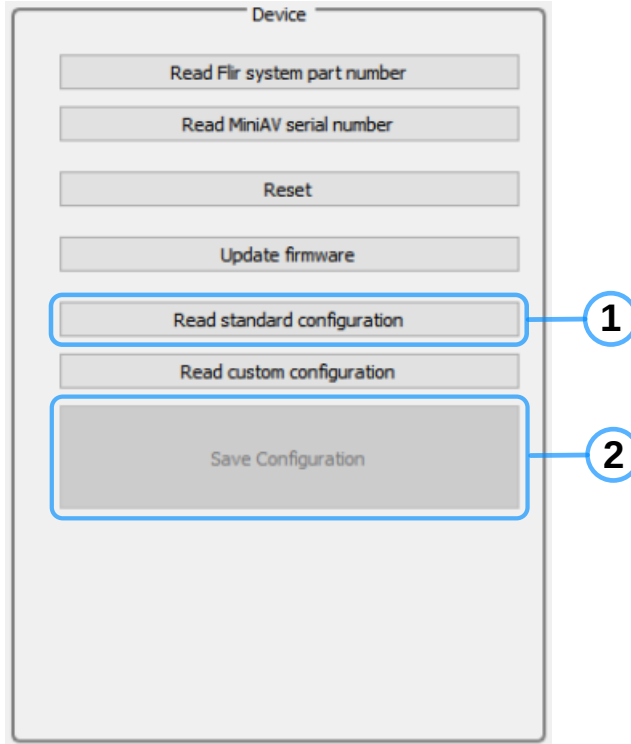

Figure 11: Set default configuration
To restore the default configuration of the MiniAV (see Fig. 11), press the buttons *Device*→*Read standard configuration* ① and after that *Device*→*Save configuration* ②. This operation overwrites any custom settings of the video display.